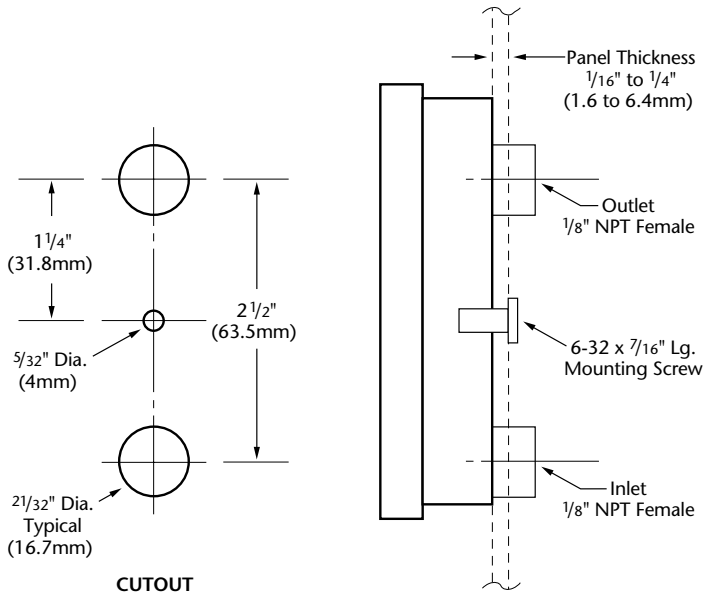
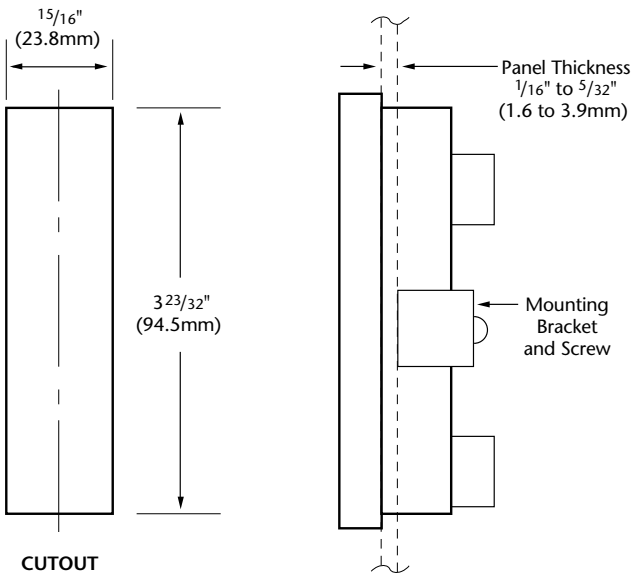

Figure 2 – Front Panel Mounting, Series 50PM Flowmeter
Figure 3 – Flush Panel Mounting, Series 50PM Flowmeter
5. The flowmeter can be flush or front panel mounted. Each flowmeter is supplied with a U-shaped bracket to facilitate flush panel mounting. Insert the meter through the front of the panel into the cutout as shown in Fig. 3 (see pg. 10). To front panel mount the flowmeter, insert the meter through the front of the panel into the cutout as shown in Fig. 2 (see pg. 10). Use the mounting screw to fasten the flowmeter to the panel.